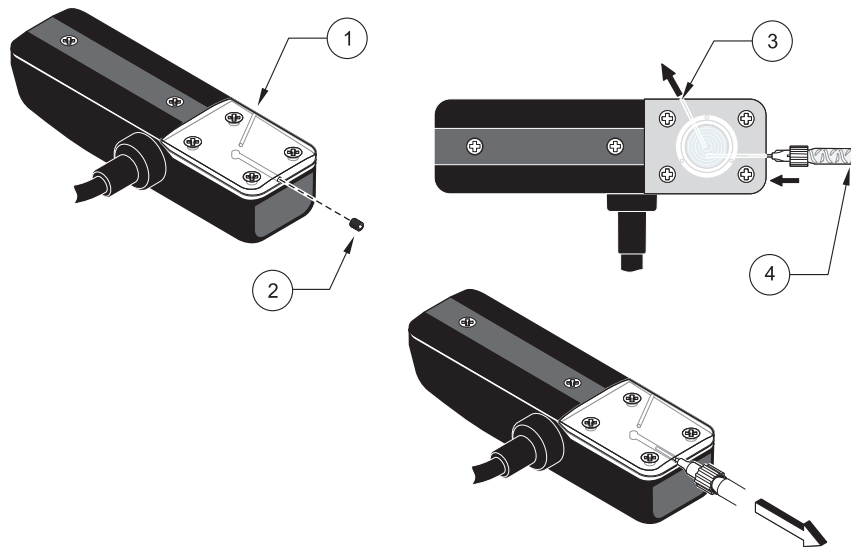

Figure 40 Oil Replenishment
7. Insert the syringe tip slowly into the set screw hole and dispense the oil (Figure 40 on page 65).
**Note:** While dispensing the oil, hold the probe at an angle to allow the air to be pushed out the side port (Figure 40 on page 65).